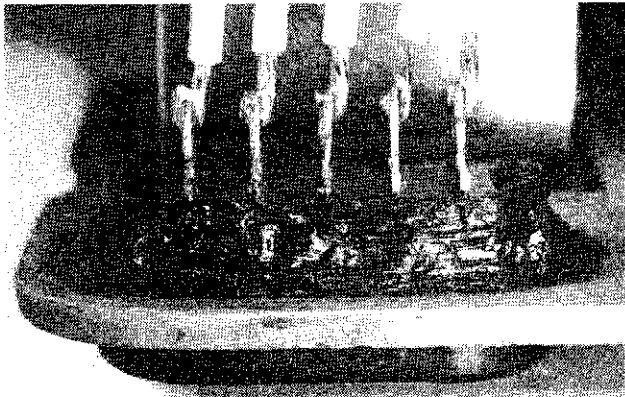

Figure 2 Repaired
5. Use RTV (Silicone rubber sealant, or equivalent, Dow Corning Corp., Midland, Mich. 48640) to seal terminal bushing to the mounting plate. Apply a small bead completely around the bottom of bushing to secure the bushing to the plate as shown in figure 2 (repaired). If RTV is not available, use either Hysol, Epoxi-Patch Kit (general purpose), Hysol Corp., Olean, NY or Conap, Easy epoxy Kit (K20 general purpose) 1405 Buffalo St., Olean, NY, or equivalent.